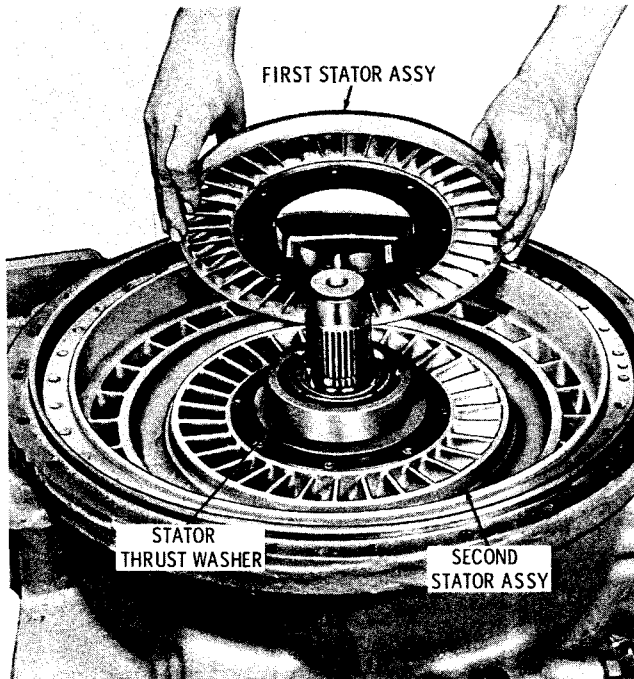

Fig. 7-40. Installing first-stator assembly (5630, early 5631 models)
(18) On CRT 5630, and early CRT 5631, model transmissions, install the second-stator assembly, flat side upward (fig. 7-40). Check to make sure that the stator will freewheel clockwise, but lock up when rotated counter-clockwise.
(19) Install the stator thrust washer (fig. 7-40).
(20) Install the first-stator assembly (fig. 7-40). Check for freewheel rotation as in (18), above.